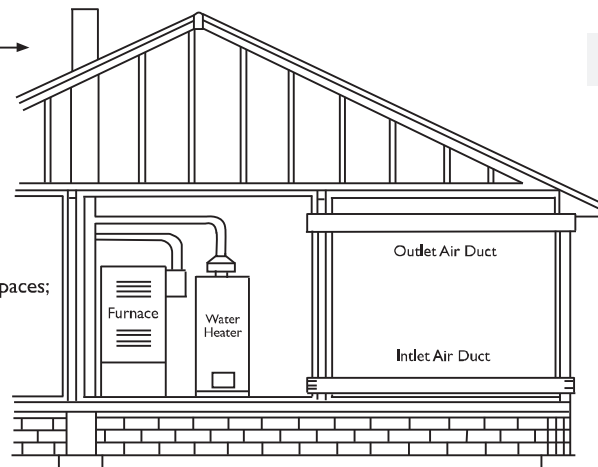

FIGURE 8
I. When communicating with the outdoors through horizontal ducts, each duct opening shall have a minimum free area of 1 square inch per 2,000 BTU per hour of total input rating of all equipment in the enclosure. (Figure 8).